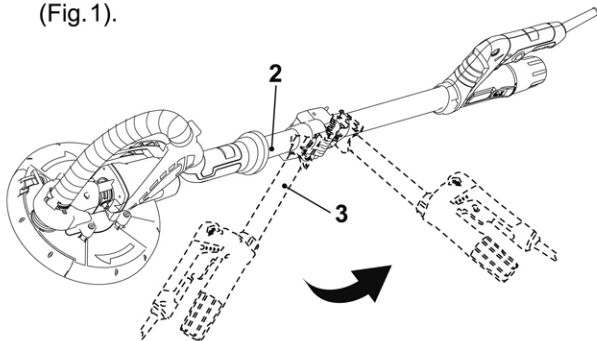

Fig. 1
1. Fully unfold the upper shaft **(3)** in the direction against the lower shaft **(2)** (Fig. 1).